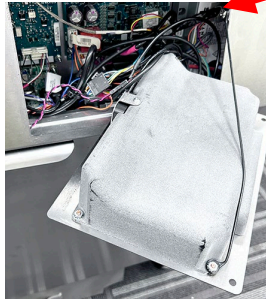

Figure 18
- With the replacement controller face down resting in the control box, with the large protruding housing towards the bottom of the controller, **reattach the lanyard tether FIRST**. Failure to reinstall the lanyard may result in damage to the SIB board connectors when connecting or disconnecting cables (see Figure 18).